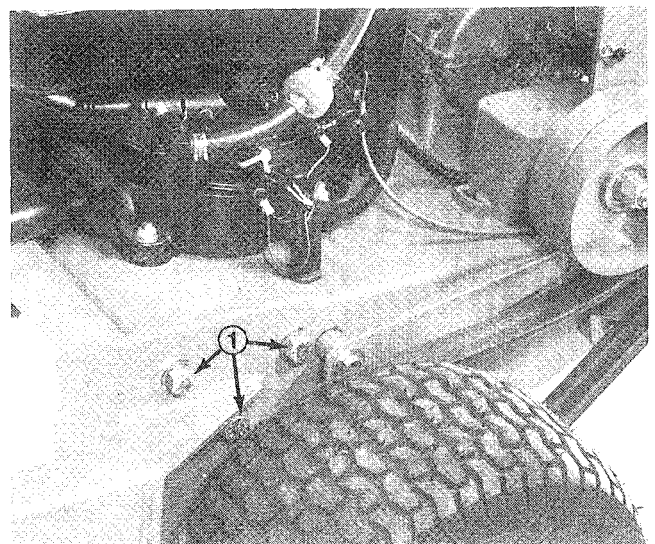

Figure 2
1. Align carrier frame mounting holes with mounting holes in traction frame. Secure each side with three flange screws and locknuts (Fig. 2). Torque fasteners to 60-80 ft.-lb. (81-109 N·m).